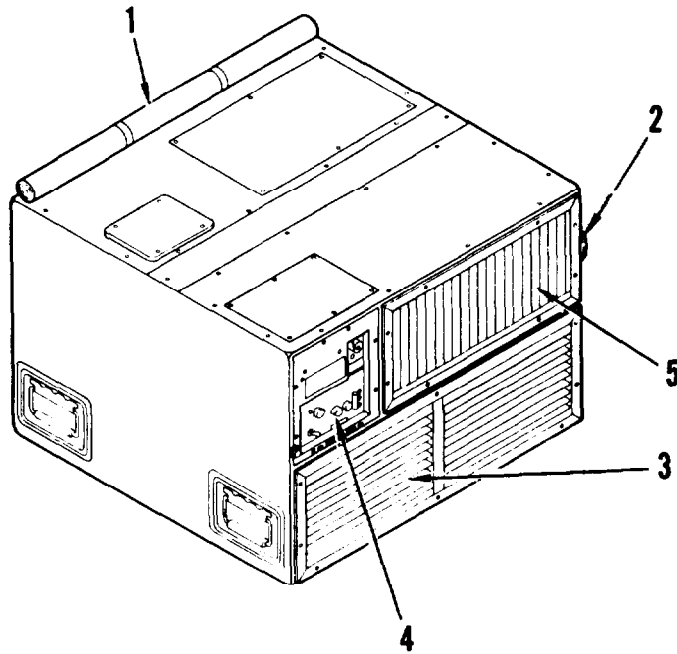

Figure 2-10. Operating instructions for ventilation
f. Operating Instructions for Ventilating (See Figure 2-10). Operate the air conditioner for ventilation as follows: